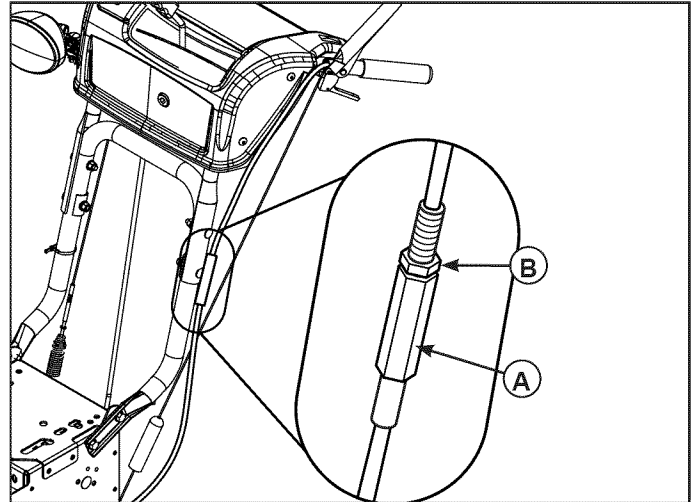

Figure 39. Cable Adjustment
2. Loosen the jam nut (B, Figure 39).
3. Turn the adjustment nut (A) to lengthen or shorten the cable. The cable should be tightened just until all slack is removed from the lever, however it must not engage the Easy Turn™ release without depressing the control lever.
3. Loosen nut (D, Figure 39) on auger idler pulley (B) and move auger idler pulley towards belt about 1/8 inch (3 mm).
4. Tighten nut (D).